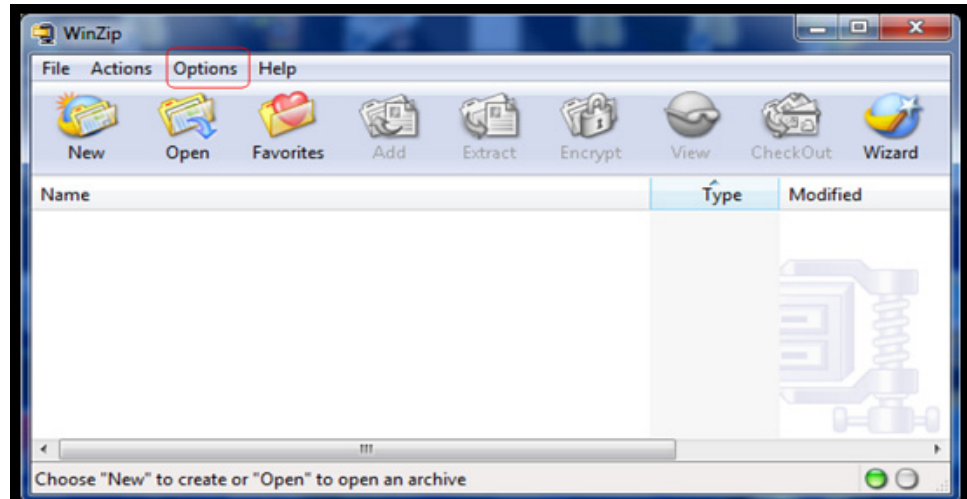

Figure 115 Selecting Options
2. Select **Options**, as shown in Figure 115 on page 91.